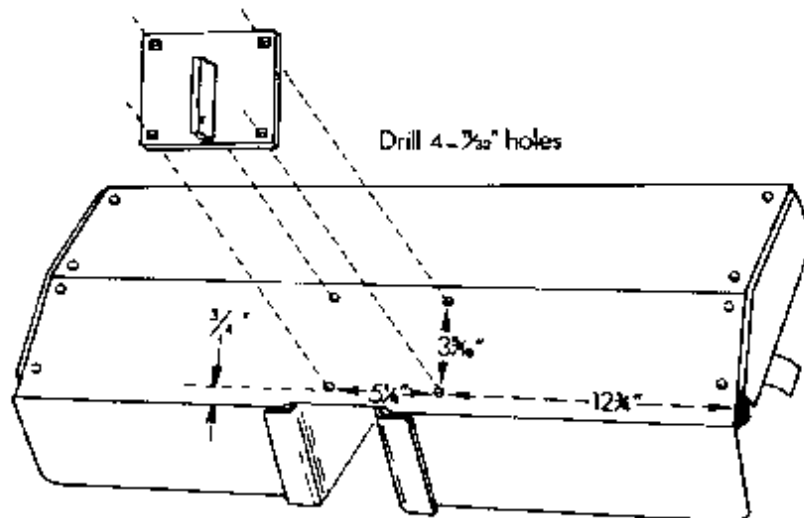

Figure 1. Lift Plate Holes, 7-1252 Modification
1.1 Rear lift bushings (Part No. 6254) moving out of position (Fig. 1).
2.1 Install required amount of .050" shim washer (Part No. 1278) and/or .015" shim washer (Part No. 5210) between the "E" rings (Part No. 5618) and the rear bushings (Part No. 6254) as shown in Fig. 1. An equal number of shims should be used on both ends of the lever assembly (Part No. 105539).
3. The following parts are also required, as applicable. Figure 1 shows the hole locations for mounting the lift plate. The lift plate is installed so the lift chain hole is down (closest to gearcase).